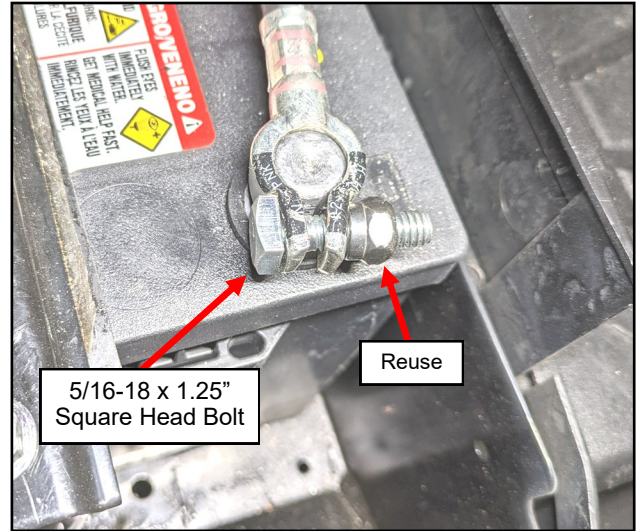

Fig. 4.11 (Install Ground Terminal)
4.11 Replace the negative battery terminal bolt with the longer one supplied and reconnect the negative battery terminal. See figure 4.11.